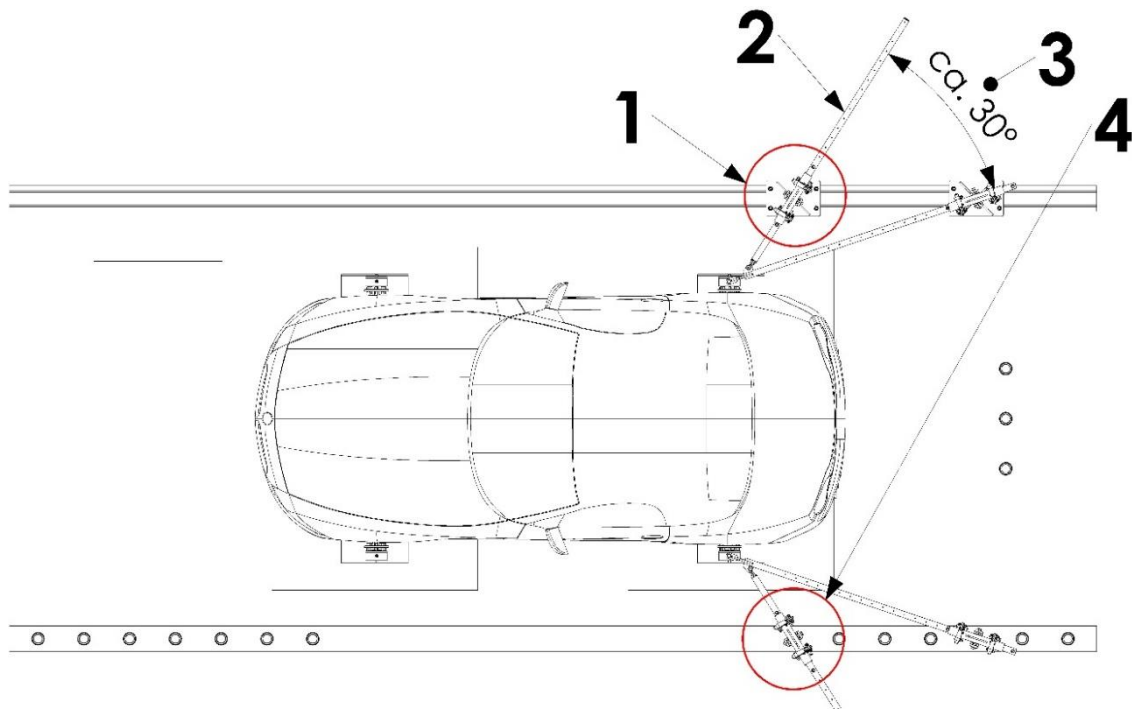

Figure 30: Position for second anchor and diagonal wheel hub rod
Note	<p>Conditions for the position of second anchor (circle in Figure 30):</p> <ul style="list-style-type: none"> <li>• Angle between the wheel hub rod and diagonal wheel hub rod shall be approx. 30°.</li> <li>• Distance between anchor and wheel: between 1m and 2m.</li> <li>• On both sides of the clamping collet (KR), the securing pin must fit into the hole of the wheel hub rod.</li> </ul>